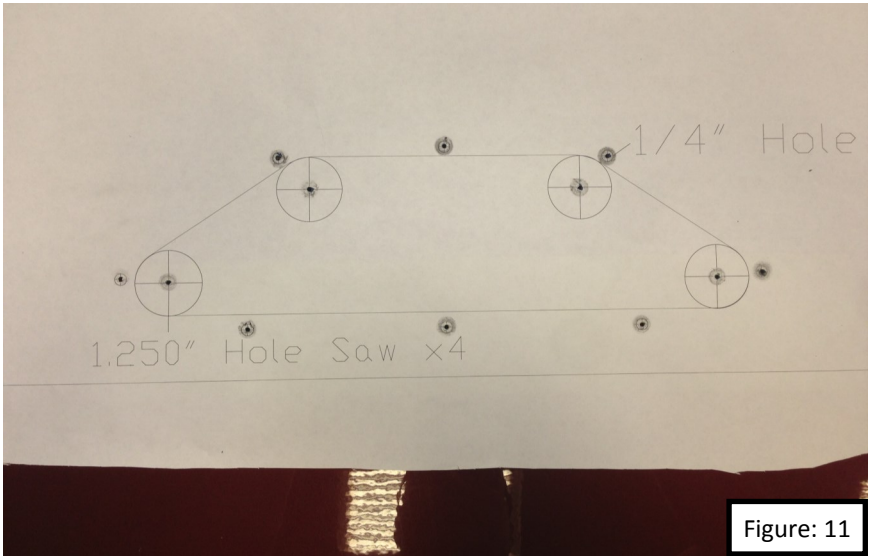

Figure: 11
14. Use the 1/16" drill bit to create a pilot hole for all of the center punched holes. Figure: 11